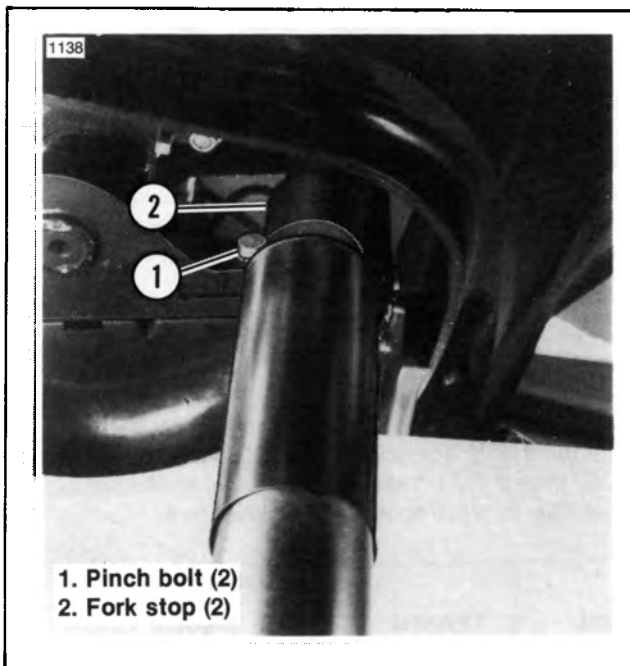

Figure 2-65. Fork Side Mounting — FLT
5. See Figure 2-65. Loosen the pinch bolts (1). Using a suitable drift and tapping from the top, drive the fork sides from the brackets and remove the rubber fork stop (2) from each fork.
1. See Figure 2-65. Place fork side assemblies into the upper and lower bracket with the rubber sleeves positioned on the fork sides as shown.